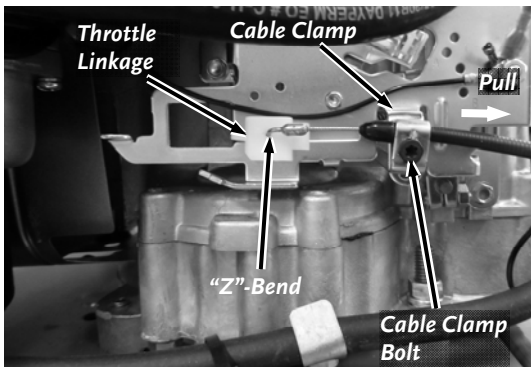

Figure 10
3. Insert the “Z”-Bend of the Cable end into the hole in the Throttle Linkage on the side of the Engine (*Figure 10*).